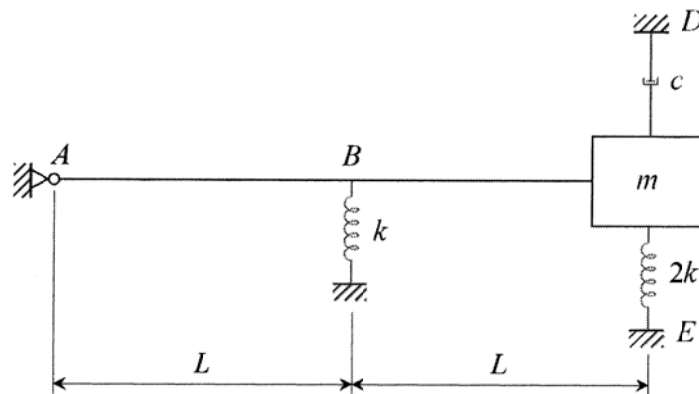

Figure 1
1. Develop the equation governing the rotational motion of the system pivoted at point A in Figure 1. The rigid rod is massless. (20%)